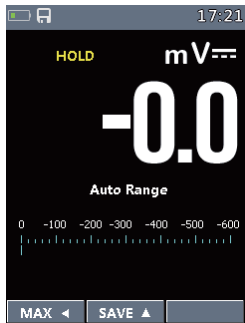
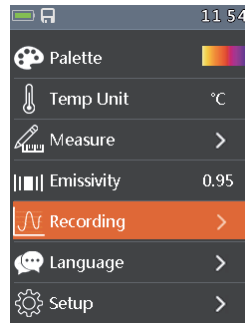

Fig130
Fig131
- With a measurement on the display(Fig130), press Button key Menu to enter the instrument's general menu(Fig131).